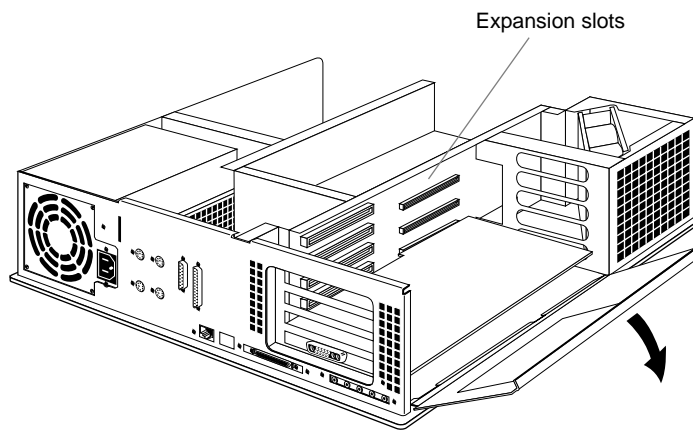

Figure 2-13 Opening the Metal Panel in Front of the Expansion Slots
3. Open the metal panel in front of the expansion slots by pulling up on the panel and lowering it, as shown in Figure 2-13.